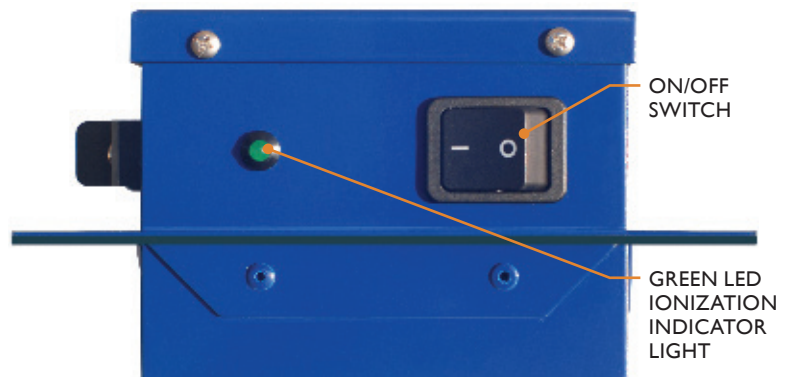

FIGURE 3 – Right view of ionizer
1. When power is supplied to the ionizer and the switch is in the “on” position, the ionizer will be activated and will illuminate the green ion indicator light. (See figure 3)